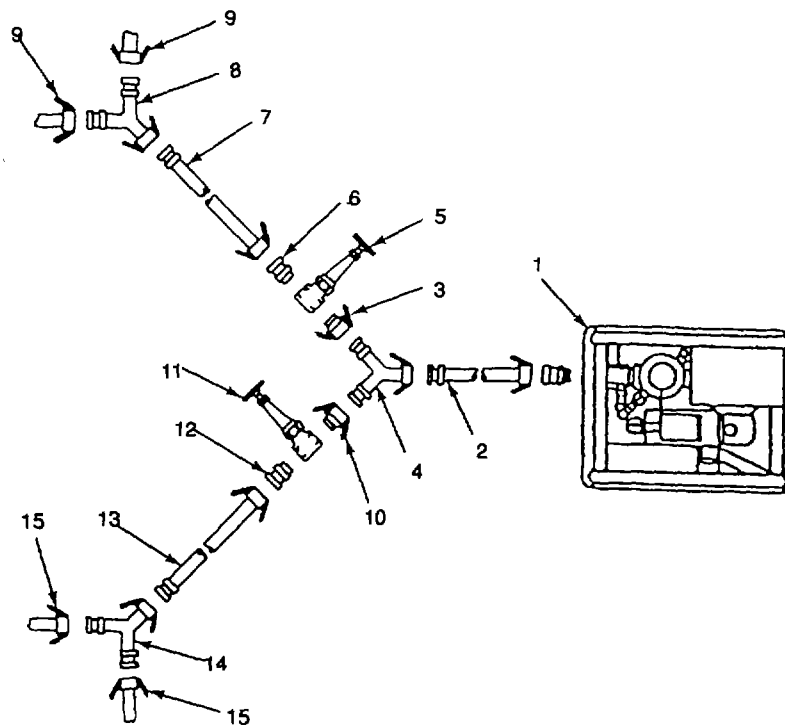

Figure 2-25. Hypochlorination Unit and First Wye-Connection
- (22) Push cam arms on 2 in. X 20 ft discharge hose (9) forward to open position.
- (23) Connect hose (9) to 4 in. X 2 in. reducer (8) of hypochlorination unit. Close cam arms.
- (24) Push cam arms on female quick-disconnect adapter on wye-connection (4, Figure 2-25) forward to open position.